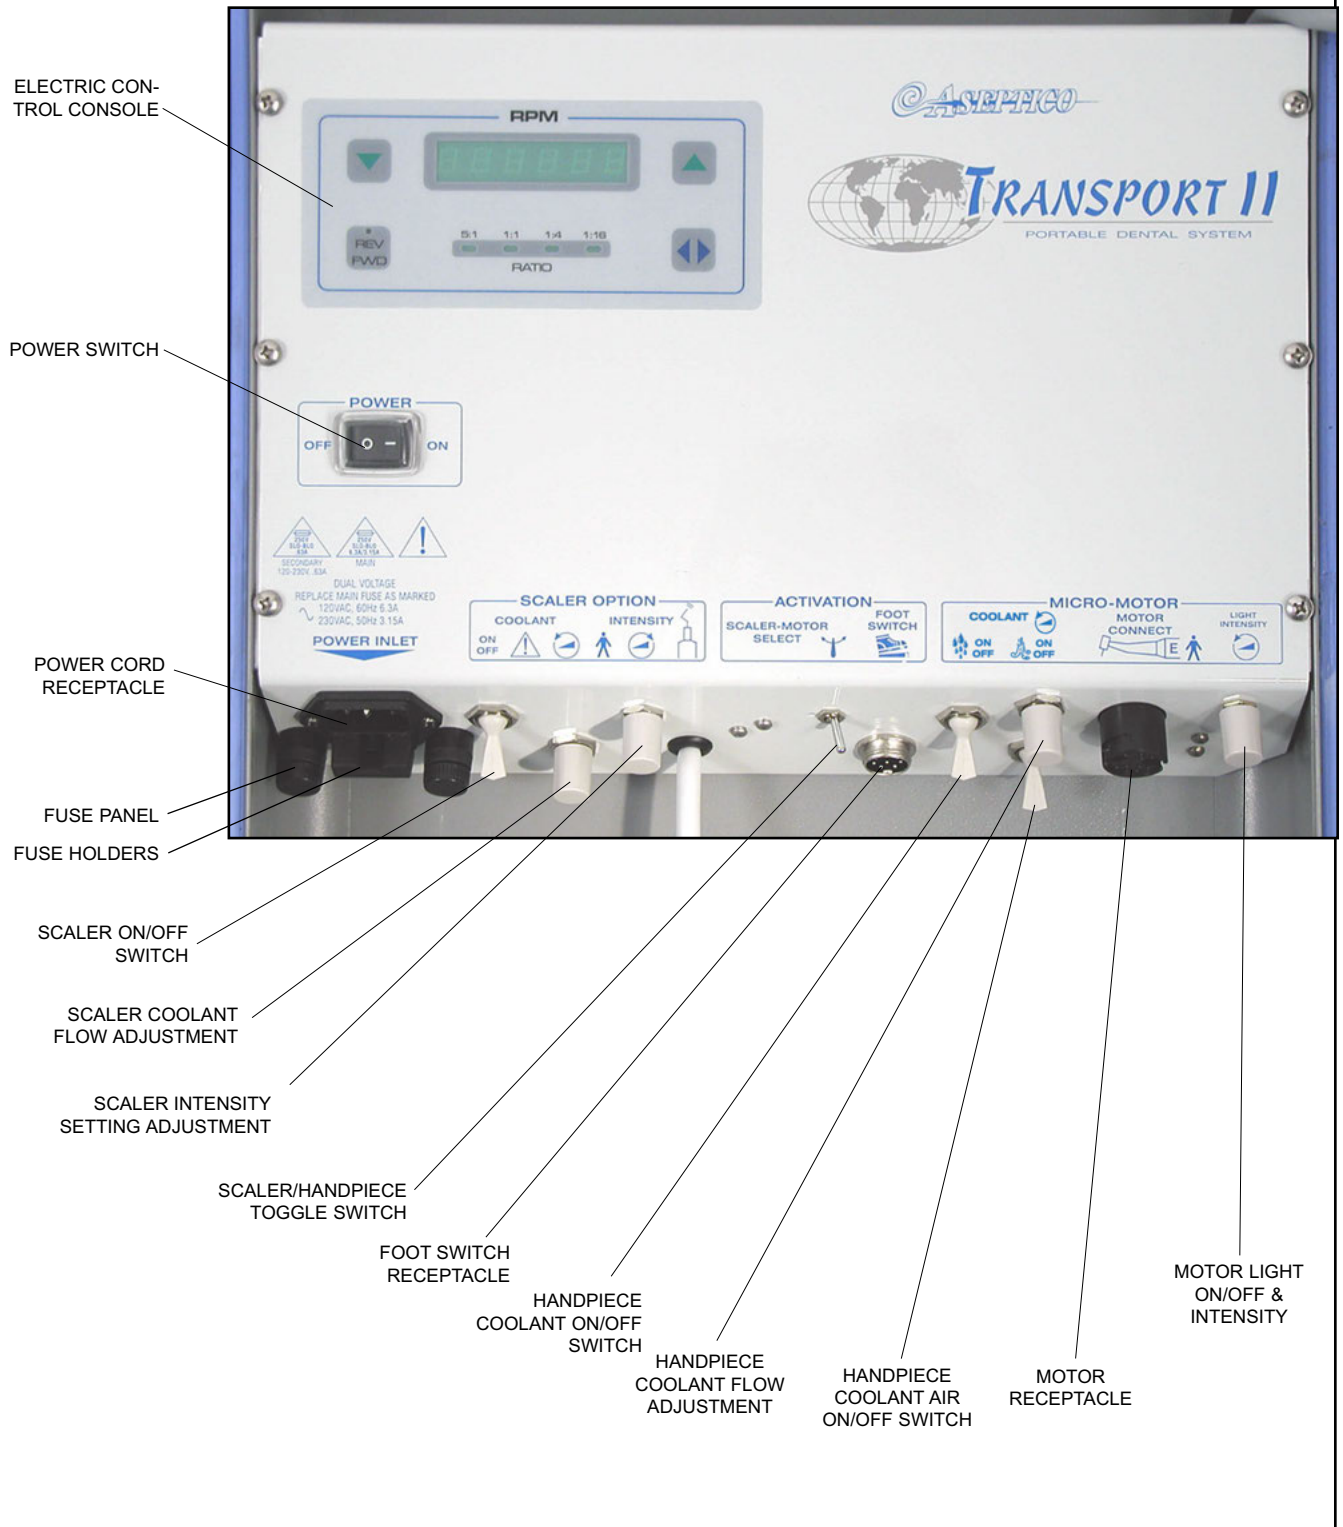

FIG. 6 - AEU-425CF/CFH RIGHT SIDE
10. Place the small Waste Tank in the unit with the small gray connector towards the front. Attach the gray hose coming from above to the white connector. Connect the Low Volume Vacuum (saliva ejector) line to the gray connector towards the front of the instrument. Connect the black electrical waste container connections (Figs. 4 & 6). Secure the tank by running the bungee cord from the hooks on the bottom panel over the small waste tank lid. (Fig. 6)